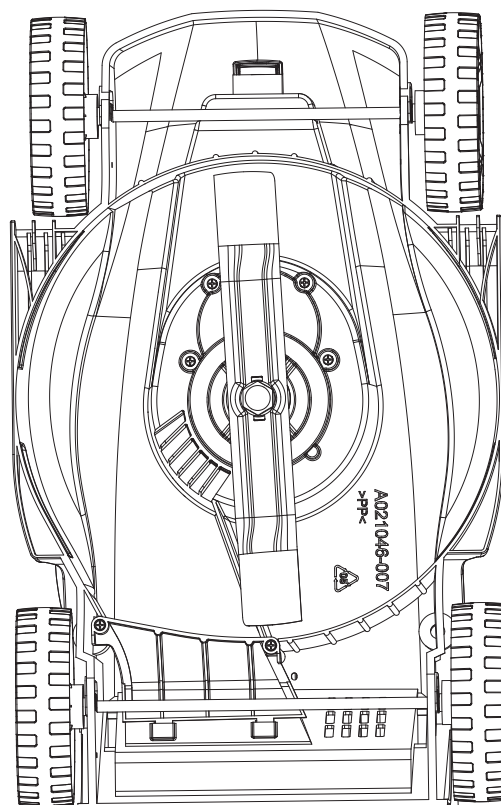

Fig.7
5. Fit the new blade, the washer and the bolt back on following the same steps in reverse order (Fig. 7).